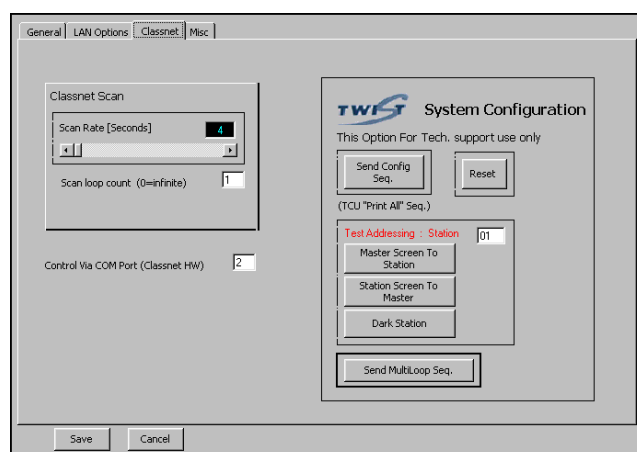

Figure 4 The Twist System Configuration box
3. Click the **Classnet** tab. The **Twist System Configuration** box appears. See Figure 4.